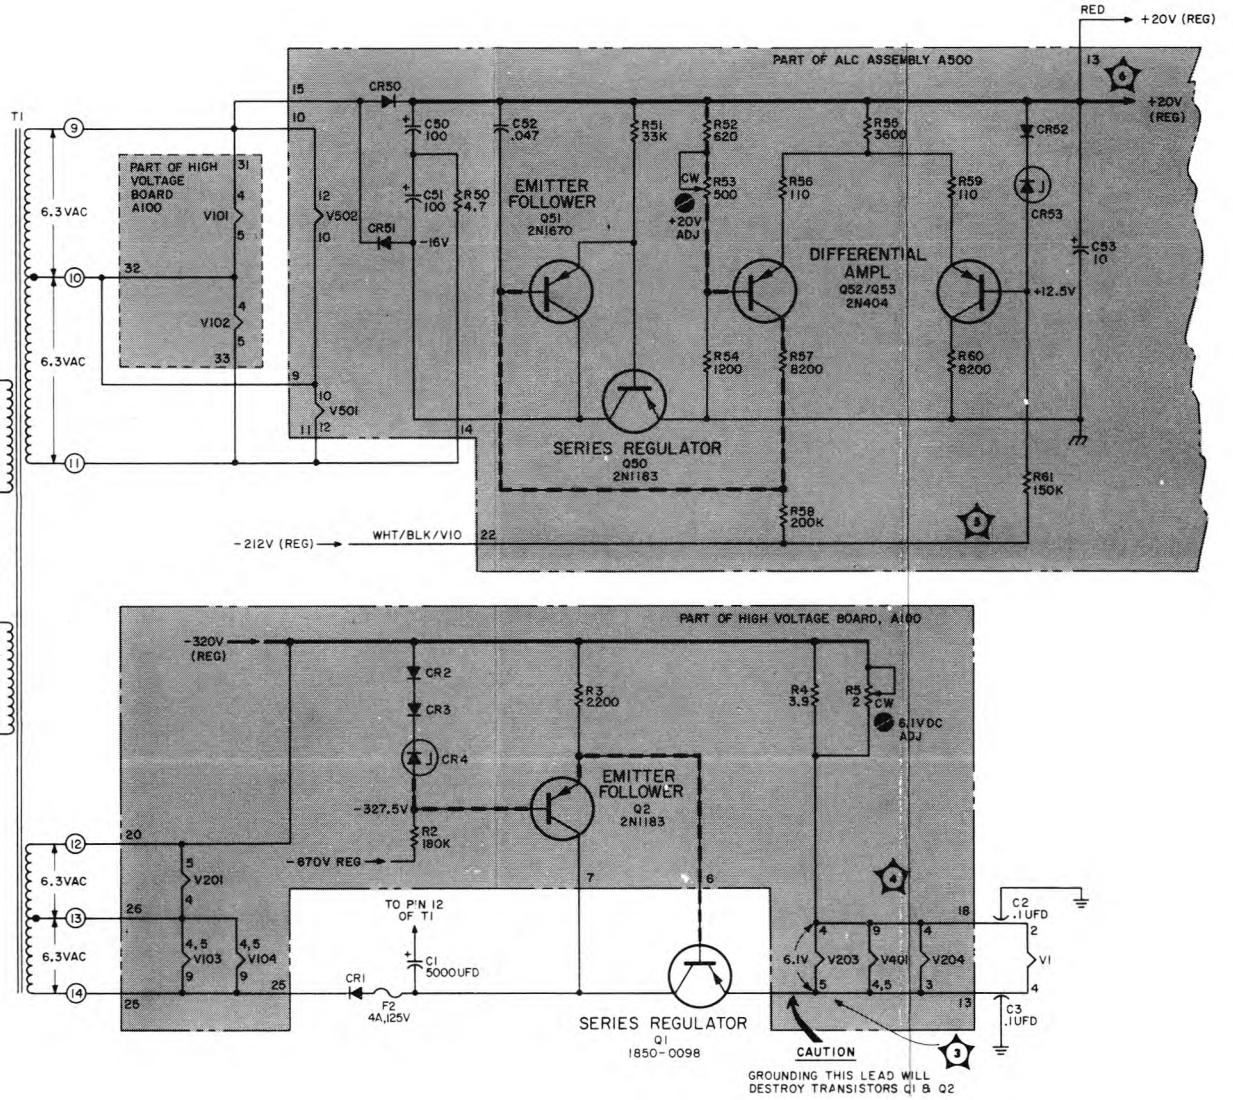

Figure 5-25. Regulated +20 Volt and Filament Supplies
Figure 5-25 and Parts List:
- CHANGE L: Figure 5-25 and Parts List:
- CHANGE N: Figure 5-25 and Parts List: